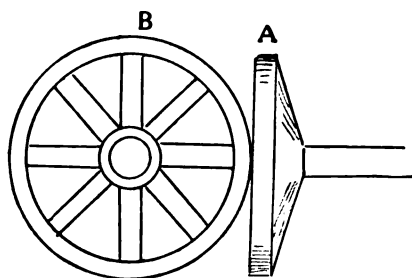
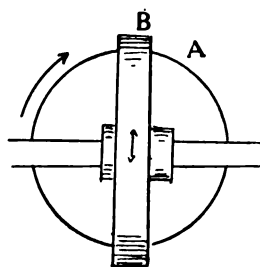
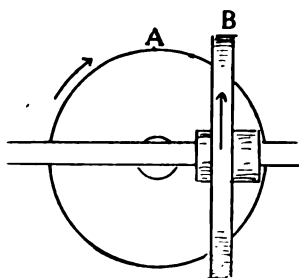
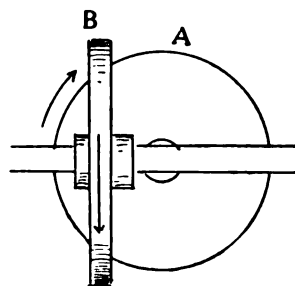

Fig. 6
Fig. 8
Fig. 7
Fig. 9
This system (Fig. 6) consists of a metal disk or wheel (A) attached to the drive-shaft of the motor, and a friction-wheel (B) which carries the shaft connected to the wheels. The friction-wheel is faced with fiber or some similar substance, and is pressed against the metal disk by means of a lever and springs, and is so attached to its shaft that it can be moved to one side or the other across the face of the metal disk. When the friction-wheel is in contact with the right-hand side of the metal disk, as shown in Fig. 7, the latter transmits its motion to the friction-wheel in the direction of rotation, as shown by the arrows. As the friction-wheel is moved across the surface of the disk toward the left the motion is transmitted in the same direction, but the speed decreases as it nears the center. When the friction reaches the exact center of the disk (Fig. 8) no motion or power is transmitted; but as soon as it moves beyond the center toward the left, motion is again transmitted, but *in the opposite direction* (Fig. 9).